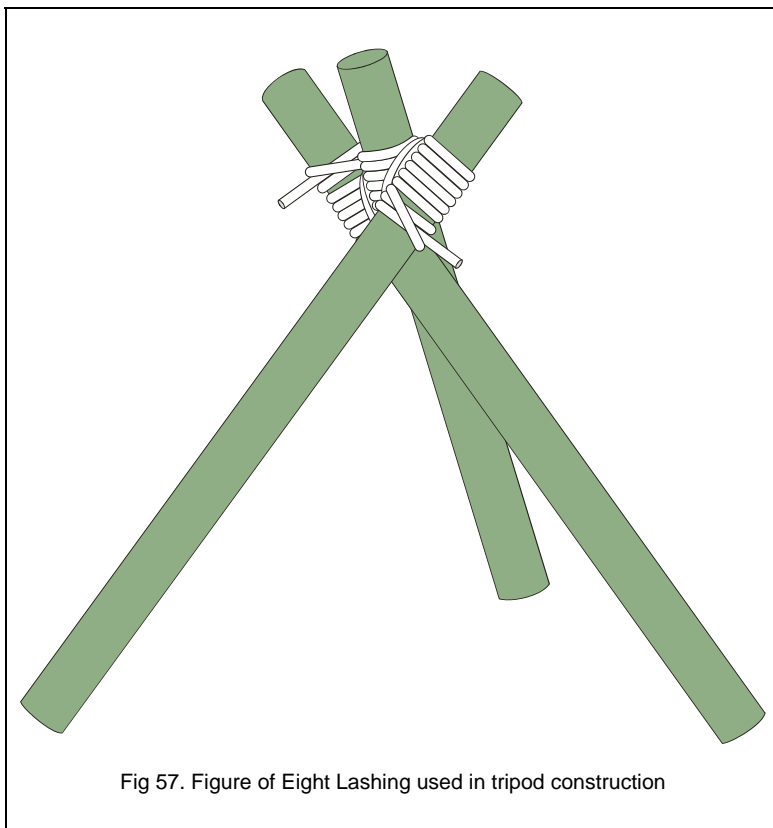

Fig 57. Figure of Eight Lashing used in tripod construction
- Used to attach timber rounds when constructing tripods as shown in *figure 57*.